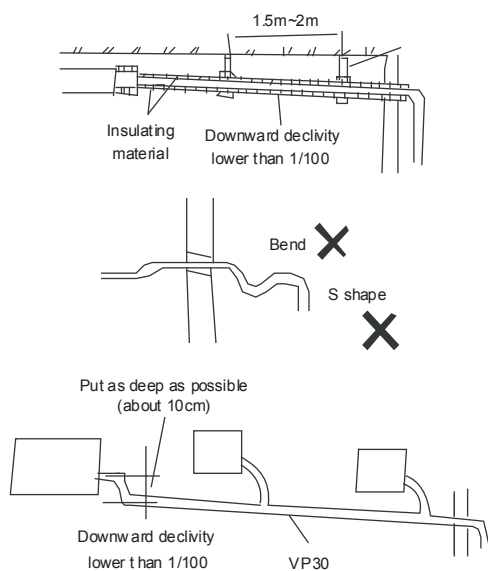

Fig. 7-1
- Refer to the Fig.7-1 for the installation of the pipes.